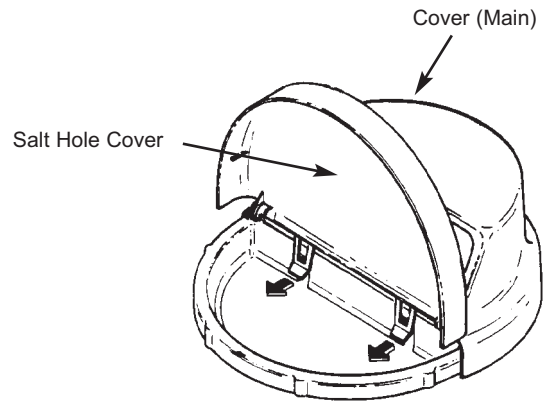

FIG. 8
4. Remove the main cover. Remove the salt hole cover first and then pull outward on the two tabs to release main cover. See Fig. 8.